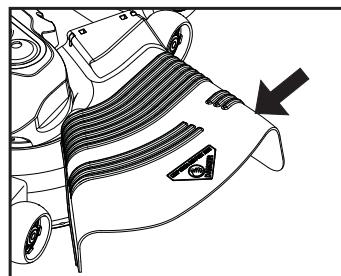

Fig. 10
**CAUTION: Do not operate the mower without either the entire grass catcher, on mowers so equipped, or the deflector chute in place (See Fig. 10).**